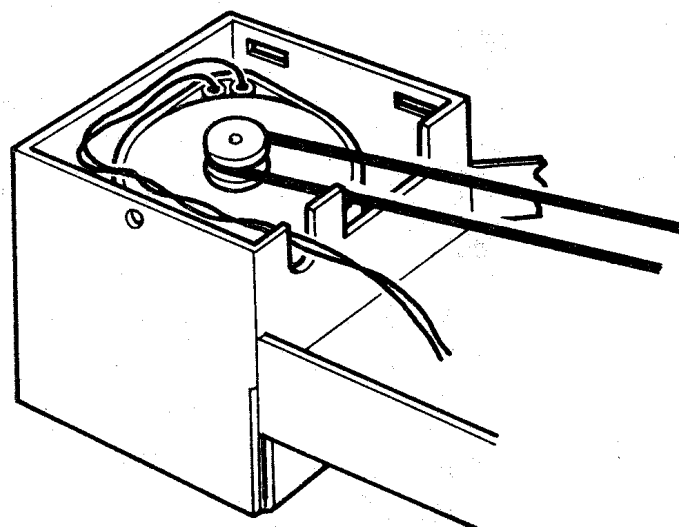

Fig. 5
- (ii) To minimise electrical interference from the motor, the two ferrite beads should be fitted as close as possible to the point where the motor leads enter the motor, additionally the beads must be positioned correctly in the motor screen, i.e. adjacent to the battery holder securing screw. (See Fig. 5).